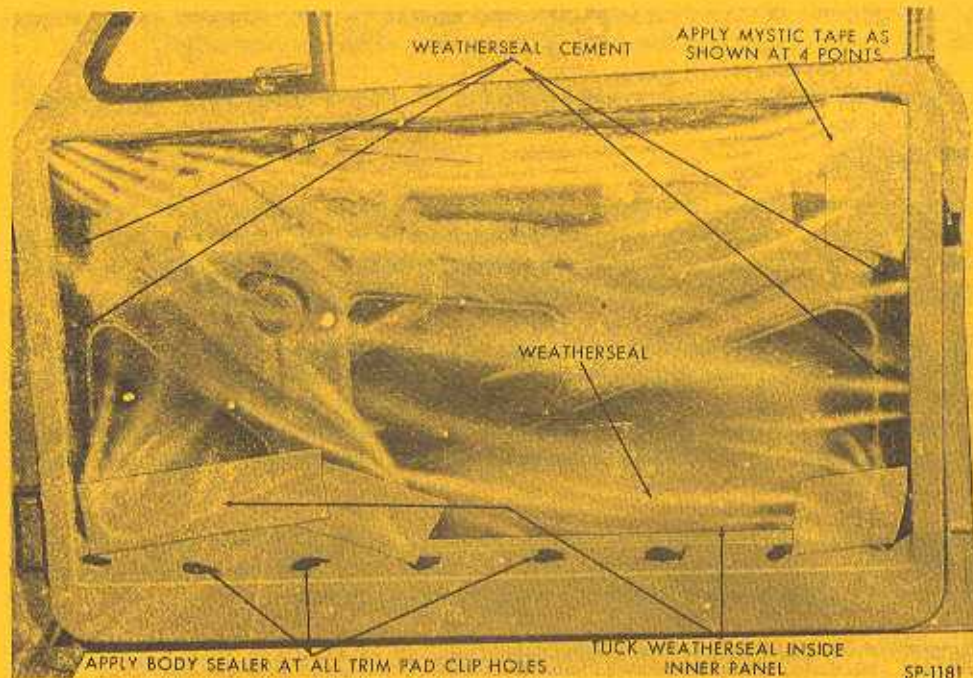

Fig. 5 - Door Inner Panel Weatherseal Installation
a. Inner Panel Weatherseal Installation. To properly seal the door, carefully cement the weatherseal in place on the inner panel. If the weatherseal is torn or otherwise mutilated, it should be replaced with a new part. (Part No. 212251). The lower edges of the weatherseal must be tucked in the access openings at the bottom of the door inner panel and taped in place as illustrated in Fig. 5.